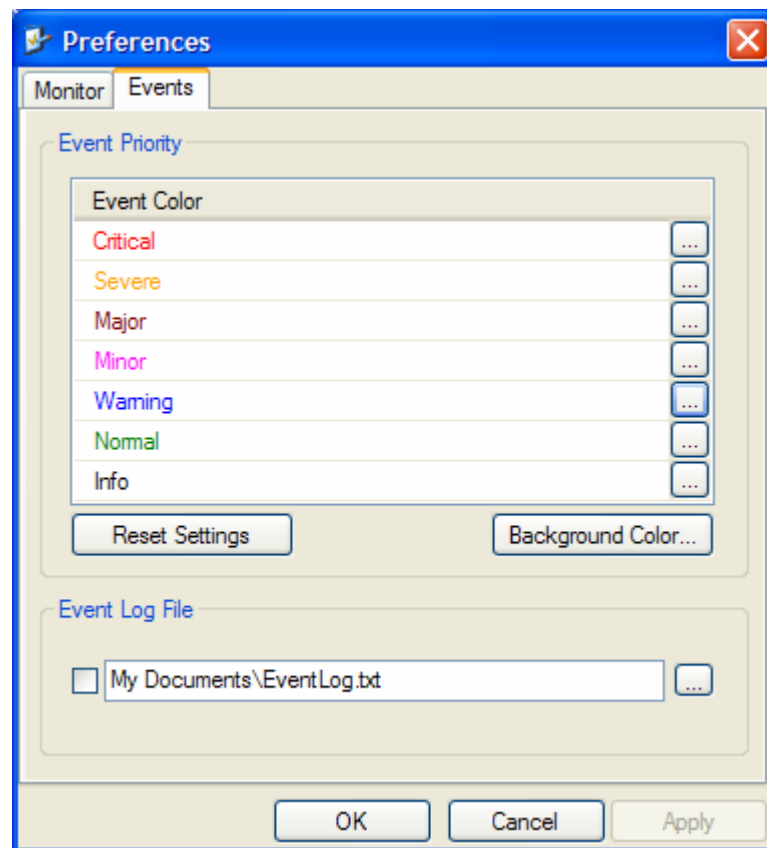

Figure 5-3. Preferences Dialog Box, Event Log Tab
2. Click the **Events** Tab (see Figure 5-3).
The Preferences dialog box appears (see *Figure 5-3*).